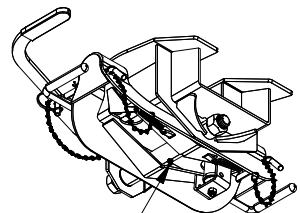

FIGURE F1: Underside
- Grease the saddle through the grease zerk approximately every six months with multi-purpose grease. This allows the coupler to pivot freely, see figure F1.